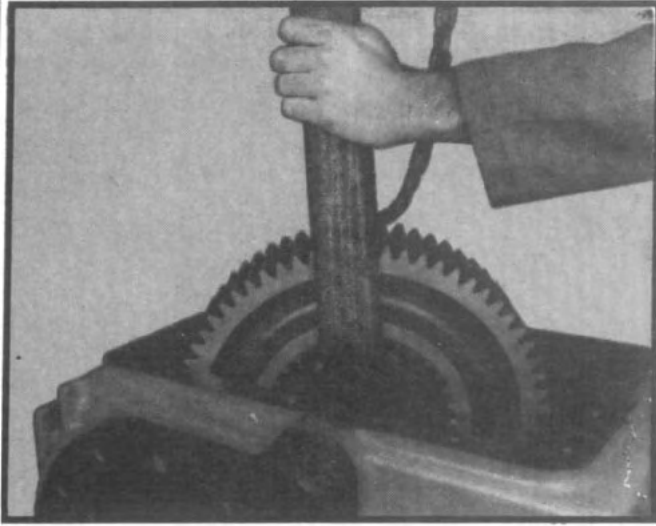

Fig. 75
- 3.25 Lift underdrive gear out of the case. (See fig. 75.)